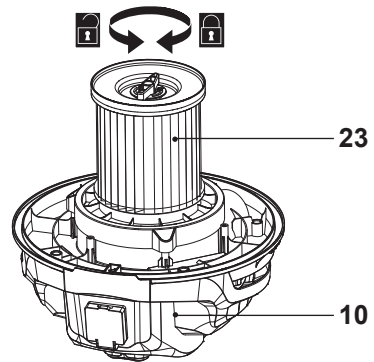

Fig. 18
filter sits properly in position. Refer to Fig. 18.
Use the cartridge filter (23) to collect particles that are not already caught by the dust bag (24). Always assemble the cartridge filter (23) onto the motor unit (10) for dry vacuuming operations (Fig. 18). Operating the product without the cartridge filter (23) can damage the motor unit.